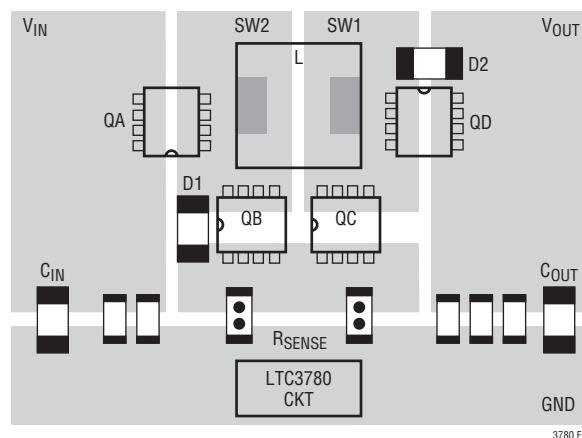

Figure 10. Switches Layout
- Place C_{IN} , Switch A, Switch B and D1 in one compact area. Place C_{OUT} , Switch C, Switch D and D2 in one compact area. One layout example is shown in Figure 10.